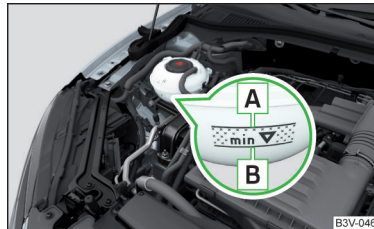

Fig. 321
Check the coolant level - the coolant level must be between the marks **A** and **B** » Fig. 321. If the coolant level is below the mark **B**, refill the coolant. ▶
The **specification** of the coolant is shown on the coolant expansion reservoir » Fig. 321.
- Do not fill the coolant above the mark **A** » Fig. 321. When it heats up, the coolant could press out of the cooling system - there is a risk of damage to the engine parts.